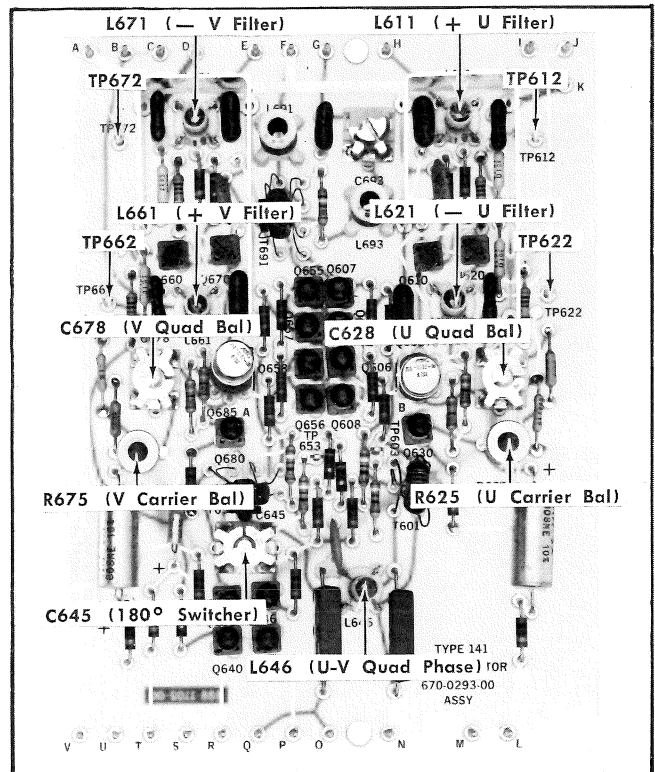

Fig. 5-15. U and V Modulator board adjustment and test point locations.
- d. Connect the 10 \times probe tip to TP612 on the Type R141A U and V Modulator board; see Fig. 5-15.
- f. ADJUST— +U Filter, L611, (see Fig. 5-15) for optimum square corner on the leading edges of the display as shown in Fig. 5-16A.
f. ADJUST—V Quad Bal control, C678; U Quad Bal control C628; V Carrier Bal control, R675; U Carrier Bal control, R625, (see Fig. 5-15) for a chrominance amplitude on the blanking level of 2.5 mV peak to peak or less, and equal amplitude on each line.
f. ADJUST—U-V Quad Phase control, L646, (see Fig. 5-15) until the colour bars overlay.
h. ADJUST—180° Switcher, C645, (see Fig. 5-15) until the requirements of parts e and g are met.